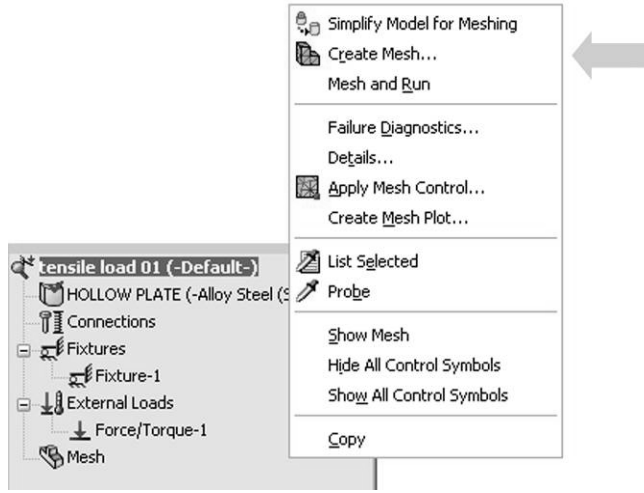

Figure 2-13: Mesh pop-up menu
Now, right-click the *Mesh* folder to display the pop-up menu (figure 2-13).
*You can control the mesh visibility by selecting **Hide Mesh** or **Show Mesh** from the pop-up menu shown in figure 2-13.*